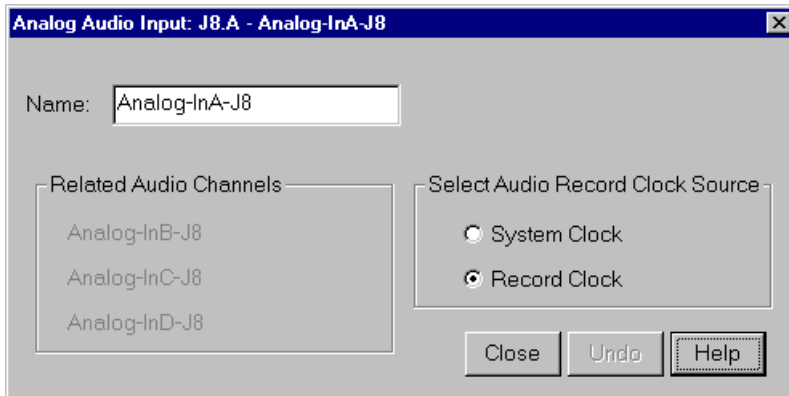

Figure 27. Analog Audio Input dialog box
1. Select **Audio Input** from the configuration tree, and then click or double-click an analog audio name from the list, such as *Analog-InA-J8*. The dialog box appears, as shown in Figure 27.